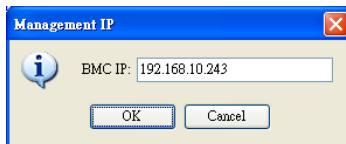

Figure 2-12 Updating the BMC IP Address
- BMC:** Shows BMC status. If a BMC is installed, the BMC IP address will appear here. Use the Update button (**Update**) to update the BMC IP address (Figure 2-12). Click the Refresh button (**Refresh**) to reload the BMC IP address. If a BMC is not installed, the message “not installed” appears, and the Update and Refresh buttons are both disabled.